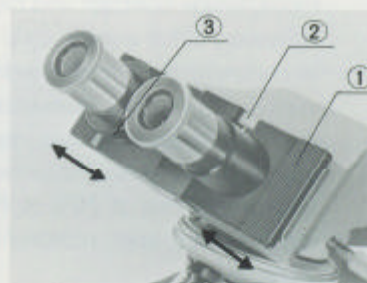

Fig. 1
- 1) Hold the knurled dovetail slides ① of the right and left eyepiece tubes with both hands and push the tubes together, or pull them apart laterally, whichever is required, while looking through the eyepieces with both eyes, until perfect binocular vision is obtained (Fig. 1).